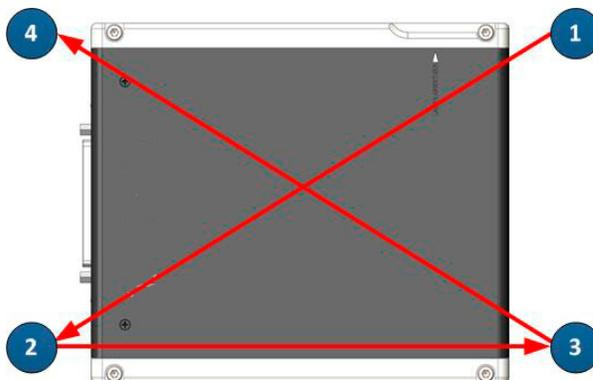

Figure 4-5. Pattern to Tighten Screws
8. **FIRST:** Lightly hand-tighten the four socket head screws just until the screw heads contact the washers. Do this in a 1-2-3-4 sequence in a diagonal pattern, as shown in Figure 4-5.